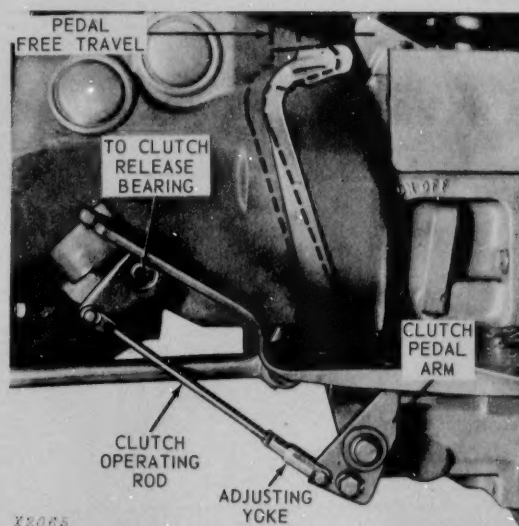

Fig. 10—Clutch Pedal Free Travel Adjustment
2. After rebuilding the clutch, check the clutch pedal free travel (Fig. 10). When the clutch is engaged, a retracting spring pulls the pedal back so that the release bearing fork does not contact the release bearing. Another spring pulls the release bearing carrier back so that the bearing does not contact the clutch plate levers. Thus, in normal driving, with the clutch engaged and
the driver's foot removed from the clutch pedal, the clutch release bearing is not turning. This is assured by having the correct free travel on the pedal (Fig. 10).